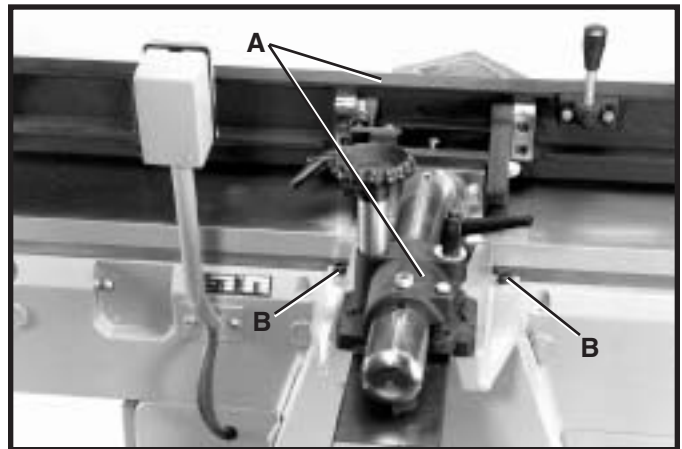

Fig. 11
1. Assemble the jointer fence assembly (A) Fig. 11, to the machine cabinet, as shown, using the two 1-1/8" long screws (B) and flat washers supplied.